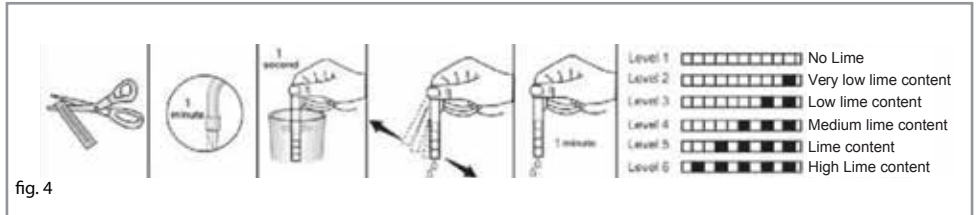

fig. 4
1. Open the testing strip (figure 4).